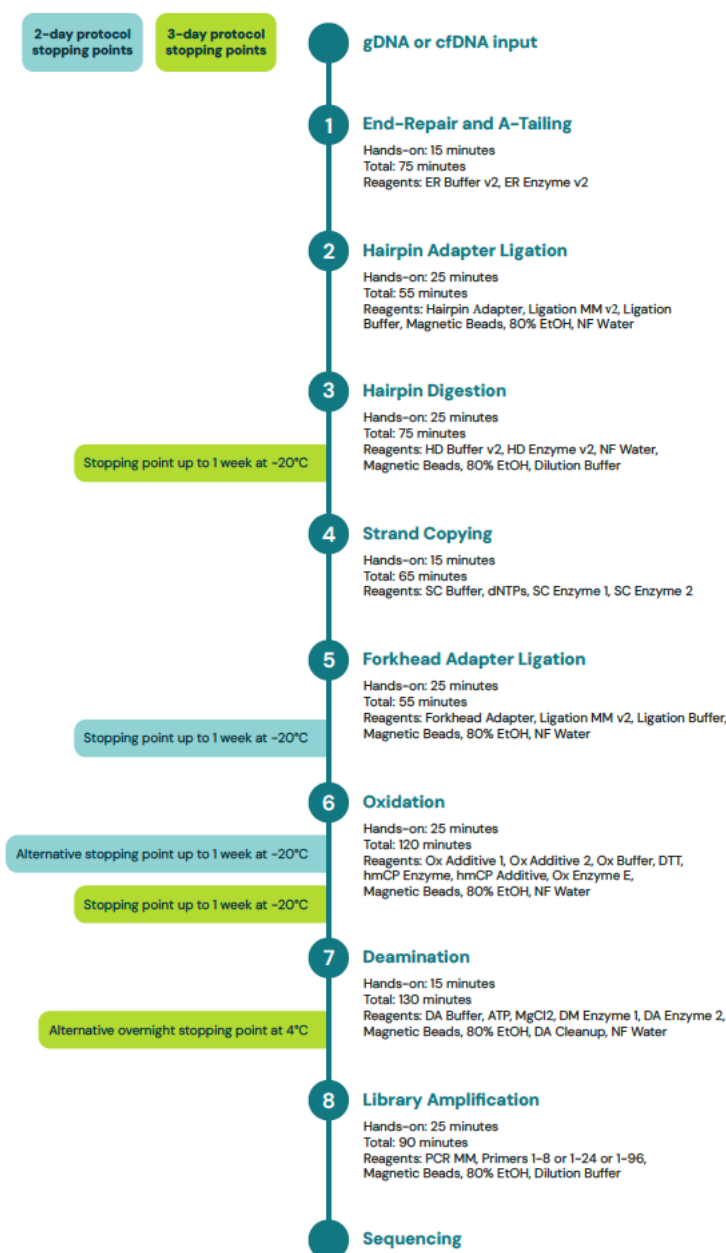

Figure 1. duet +modC workflow
The duet +modC solution comprises 8 key steps, shown in Figure 1. End repair and A-tailing, hairpin adapter ligation, hairpin digestion (HD), strand copying (SC) and Forkhead adapter ligation resulting in a duet construct. This duet construct then undergoes oxidation and deamination steps, followed by a PCR amplification step to add unique dual indexes (UDIs) and NGS sequencing adapters, producing a final duet construct ready for NGS on Illumina Platforms.